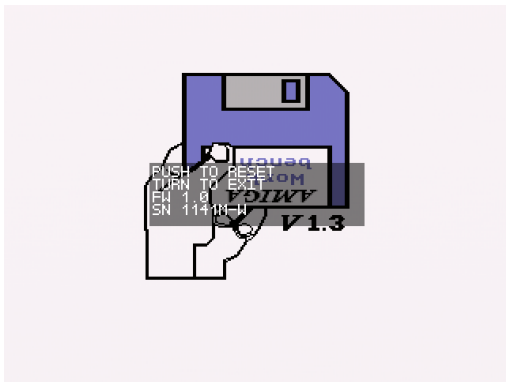

Figure 8: The on-screen display shows the firmware version (FW) and the serial number
The parameter **Reset** does not adjust anything. Pushing the knob in this state (11), i.e. when it blinks red/green restarts the D520. In normal operation you only need this to start a firmware update or to find out the firmware version and serial number (Figure 8). Turning the knob in state 11 brings you back to the idle state (1).